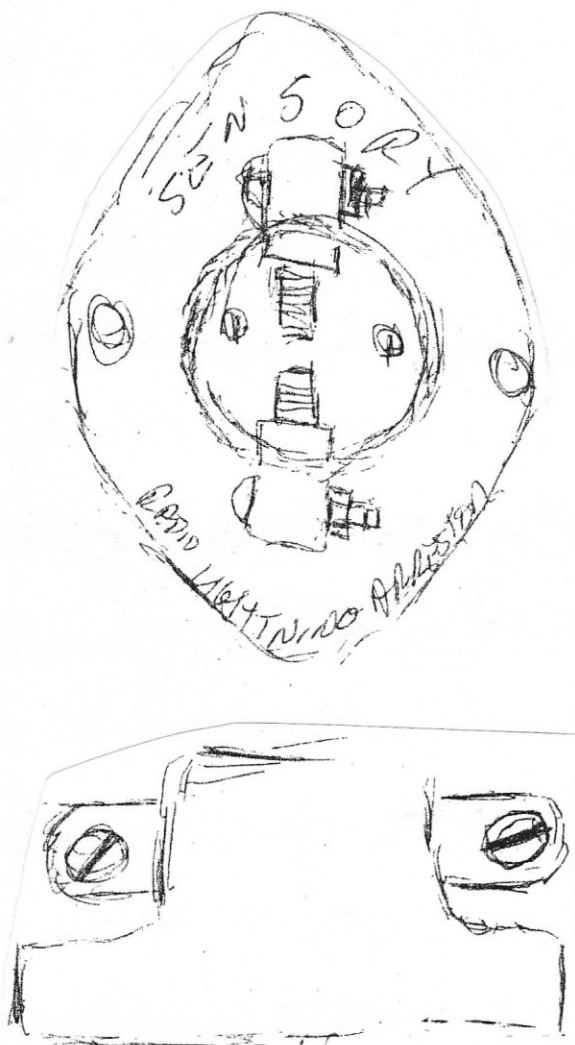

Figure 6: Sensory 3041
- Figure 6: courtesy of Dick Mackiewicz
pictured on pg. 8 figure 6